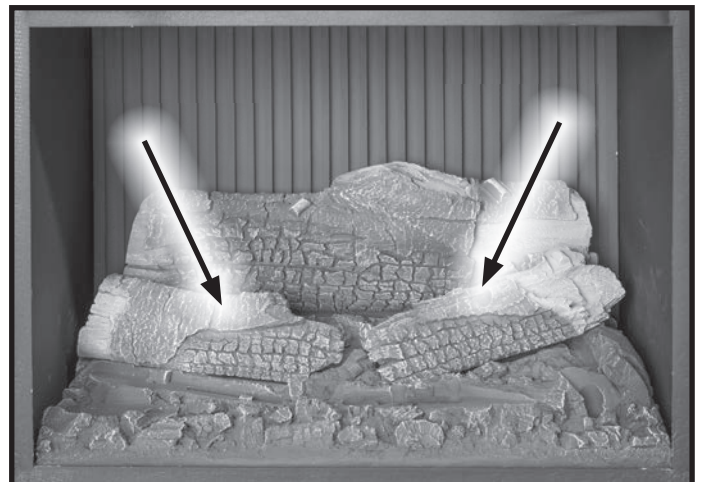

Figure 43. Rear Ember Bed Logs.
4. Next, Install the two large flat bottommed logs in the middle of the ember bed as shown in Figure 43.